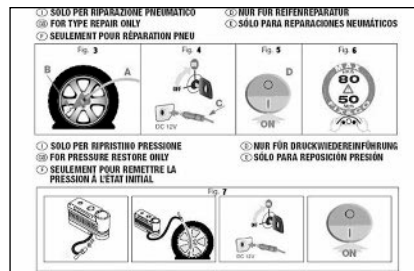

fig. 13
- ☐ instruction brochure (see **fig. 13**), to be used for prompt and proper use of the quick repair kit and to be then handed to the personnel charged with handling the treated tyre